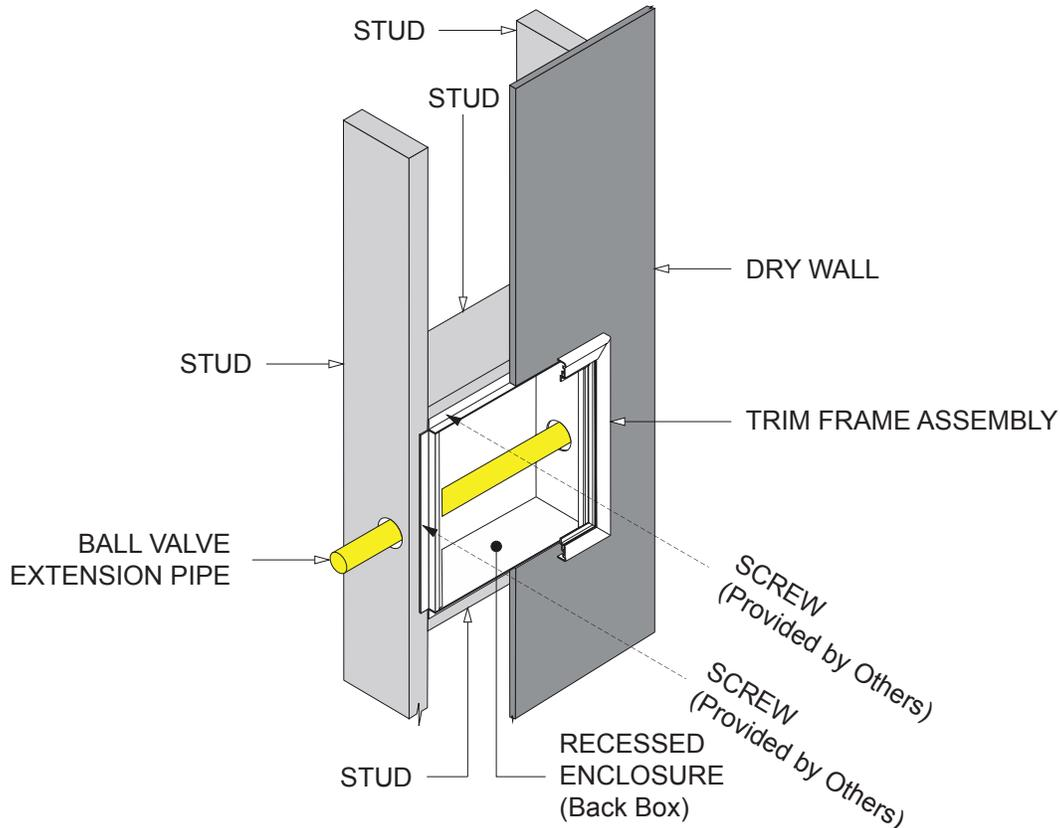

Figure 2 – Identification of the Two Assemblies
9.4 - SECURE BOX TO STRUCTURAL SUPPORTS (Refer to Figure 2)